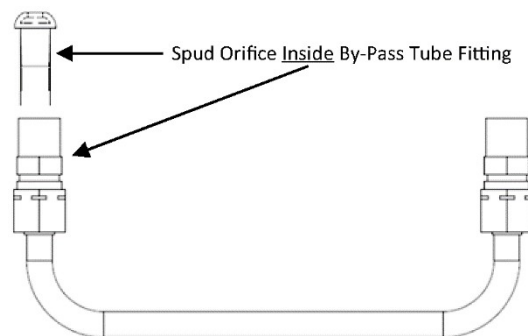
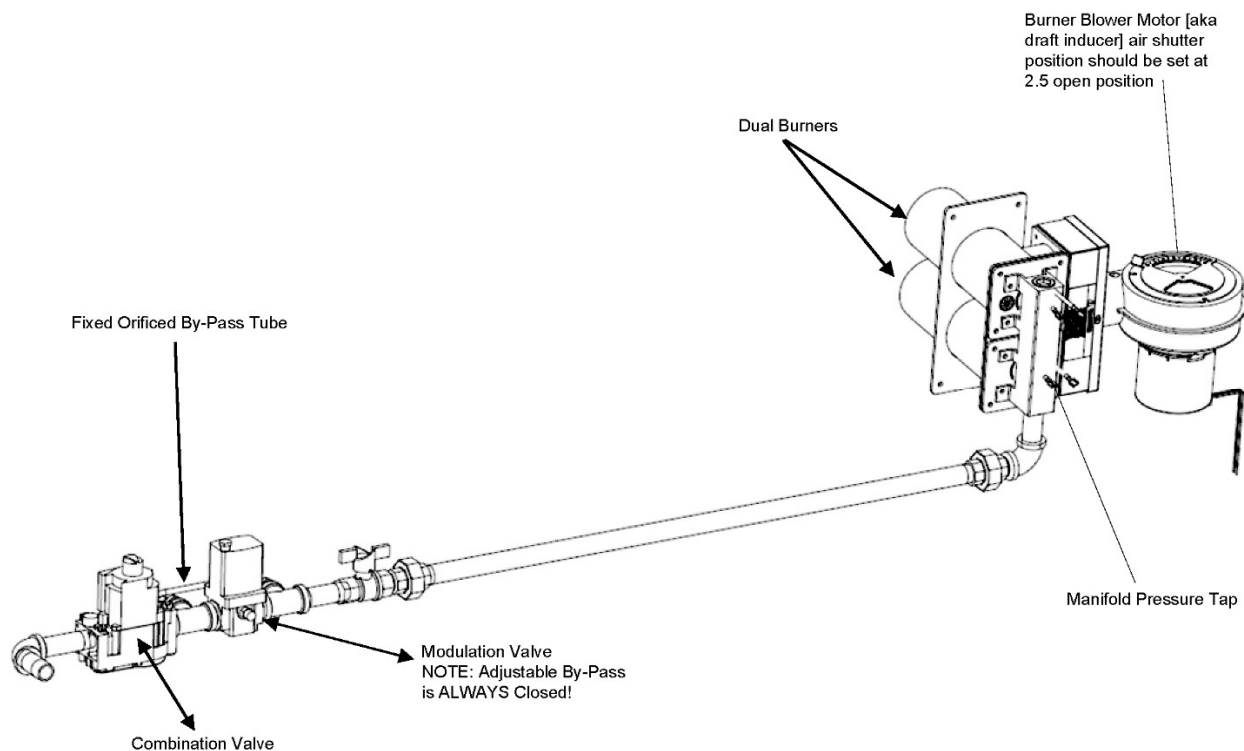

Figure 28. Bypass Orifice Inside Tube
Figure 29. Gas Train and Burner Assembly
Inlet, regulated, and pilot gas pressure readings can be taken using a digital tube manometer at the tap location shown in Figure 29, which also shows the gas train and burner assembly.
- Replace the bypass orifice (Figure 28)
3. Loosen the brass compression fittings at each end of the fixed orificed by-pass tubing. Remove the by-pass tubing from the gas train (Figure 29). Remove the mushroom spud orifice from the by-pass tubing (Figure 28) and replace with the supplied LP by-pass orifice. Remount the by-pass tubing assembly and tighten all the fittings. Check for leaks.